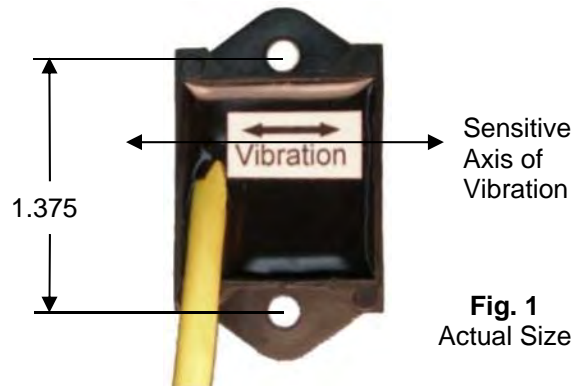
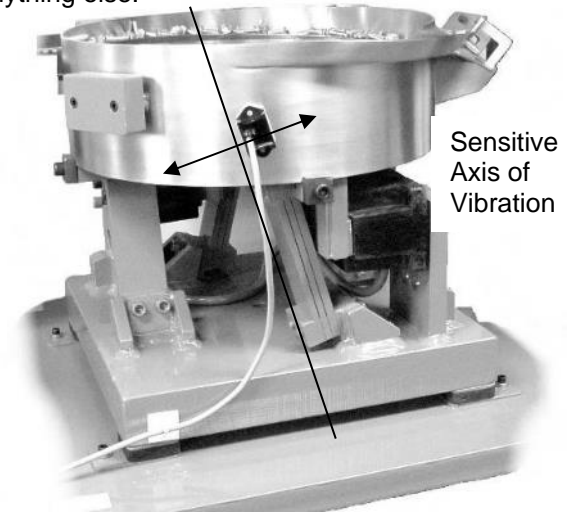

Fig. 1
Fig. 2 The arrow shows the direction of vibration which is at a right angle to the spring pack.
A. **ORIENT THE SENSOR** so that its sensitive axis is in the same direction as the vibration of the feeder. The arrow in figure 1 shows the sensor's sensitive axis. Align the sensitive axis of the sensor in the same direction as the vibration (see figure 2). The sensor must be oriented correctly for proper operation.
6) Remove the vibration sensor from its protective packaging. Remove the liner from the adhesive backing. Avoid touching the tape. Align the sensor as shown in figures 1 and 2. Apply the vibration sensor to the prepared area of the feeder. Press the sensor very firmly onto the feeder surface for at least 10 seconds.
Use a cable tie and an adhesive-backed mount to attach the sensor cable to the side of the drive base. See Figure 2. Clean the mounting area before applying the adhesive-backed mount.